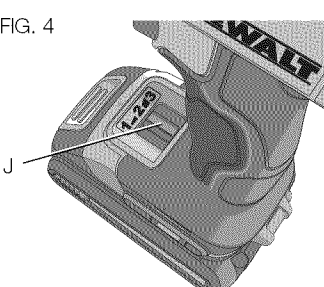

FIG. 5
Accessory Insertion and Release (Fig. 5, 6)
To install an accessory, fully insert the accessory into the chuck (D). The accessory is locked into place (Fig. 5).